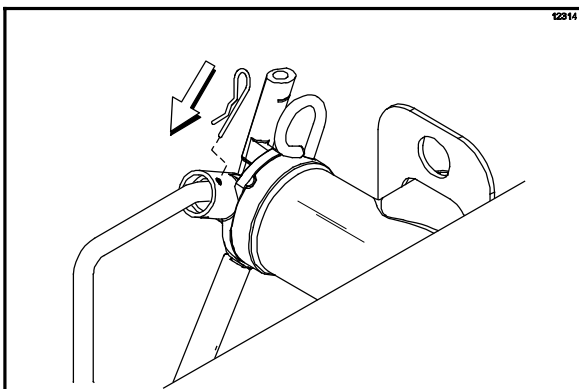

Figure 74
**Install the pump end of the mix feed tube and secure with the cotter pin. Failure to follow this instruction could result in sanitizer spraying on the operator. (See Figure 74.)**